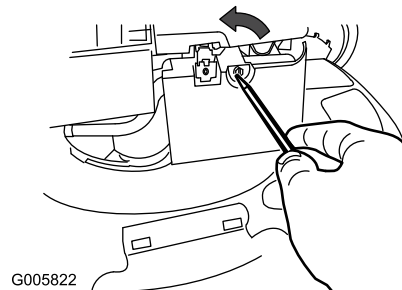

Figure 19
- Use a screw driver to open the air filter cover (Figure 19).